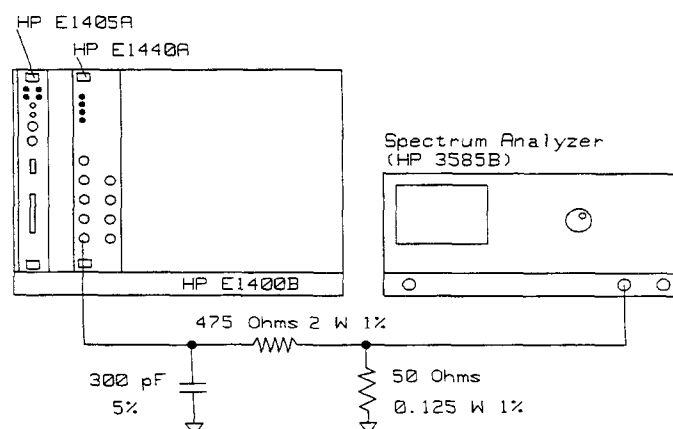

Figure C-3.
9. Connect the HP E1440A signal output to the analyzer high-impedance input as shown in Figure C-3.